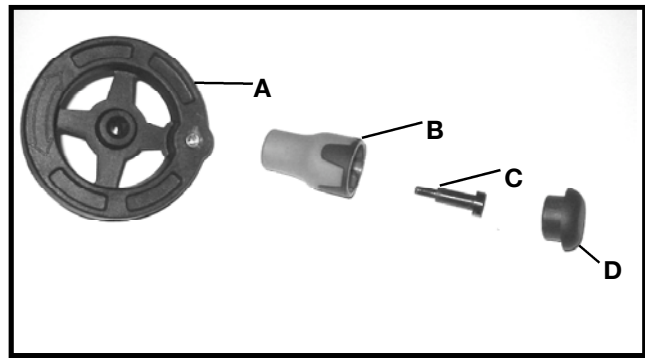

Fig. 5
1. Insert special screw (C) through handle (B) Fig.5 and assembly handle to handwheel (A) by threading screw clockwise into handwheel. Then push on handle cover (D).